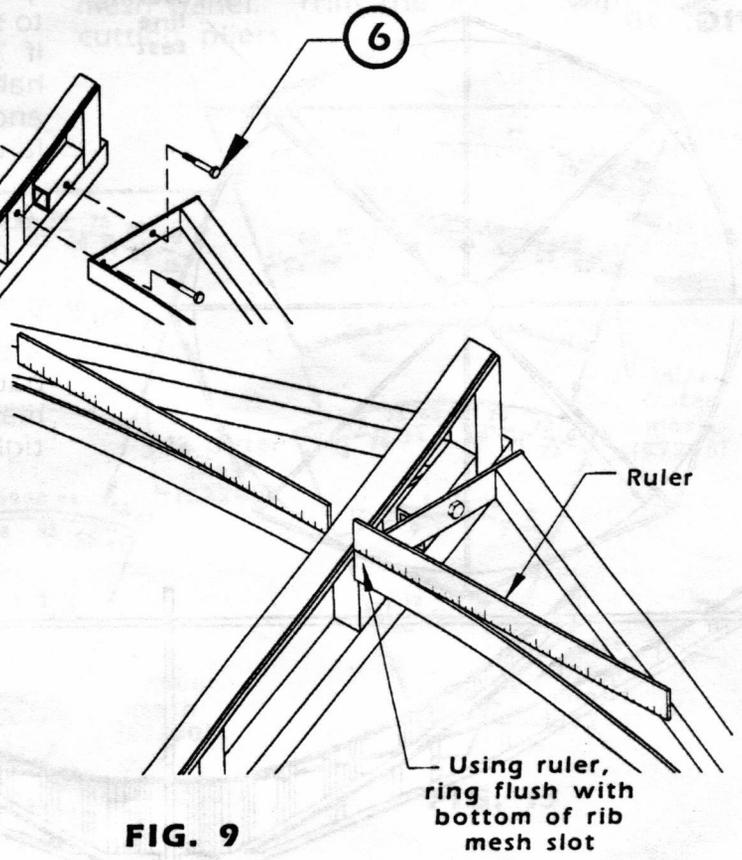

FIG. 9
4. Tighten the remaining ring bolts while being careful not to overtighten. Using a ruler, check that the rings are flush with the bottom of the mesh slot on the rib. (See Fig. 9)